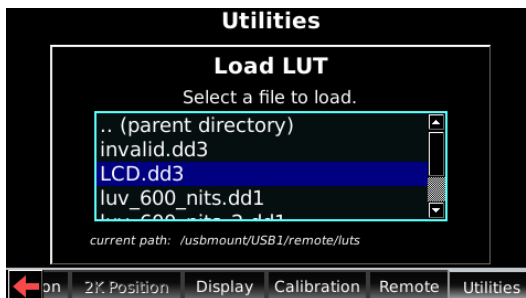

Figure 2-47 Select a File to Load Screen
3. Press **ENTER** to display the files on the USB device, then use the arrow keys to select the desired 3D LUT, as shown in Figure 2-47.